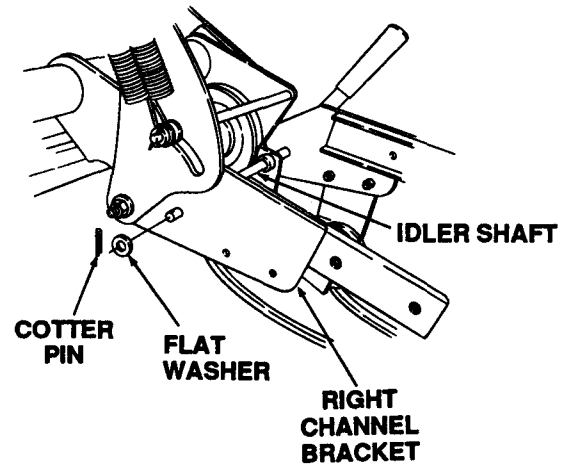

Figure 7-55. Securing Idler Shaft.
6. Push the idler shaft through the rearward hole of the right channel bracket. Slide the flat washer (34) onto the end of the idler shaft and secure with a cotter pin (35). Refer to Figure 7-55.